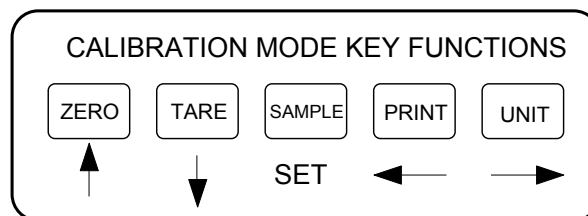

Figure 6-1: Calibration Mode Key Assignments
6. Use the four directional keys (shown in Figure 6-1 below) to adjust the displayed value to the actual test weight value. Increase the flashing digit by pressing the ZERO key. Decrease the flashing digit by pressing the TARE key. Pressing the PRINT key or the UNIT key will change the position of the flashing digit.
7. Use the four directional keys (shown in Figure 6-1 below) to adjust the displayed value to the actual test weight value. Increase the flashing digit by pressing the ZERO key. Decrease the flashing digit by pressing the TARE key. Pressing the PRINT key or the UNIT key will change the position of the flashing digit.